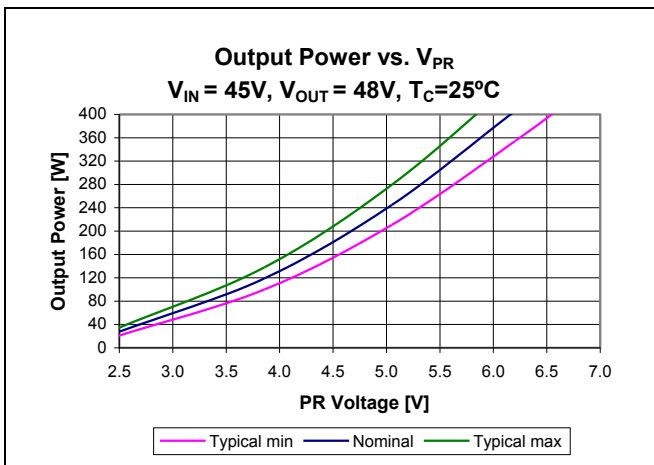

Figure 21 – Output Power vs. V_{PR} ; $V_{IN} = 45V$, $V_{OUT} = 48V$, $T_C = 25^\circ C$
Control node (PR) is the input to the control node which determines the powertrain timing and ultimately the module output power (Figure 21). An internal 0.5 mA current sink is always active. The bi-directional buffer between PR and the control node has two states. In normal operation, PR will be above the 0.79 V switching threshold, and will drive the control node through the buffer. An internal 7.4 V clamp determines the maximum output power that can be requested of the modulator.